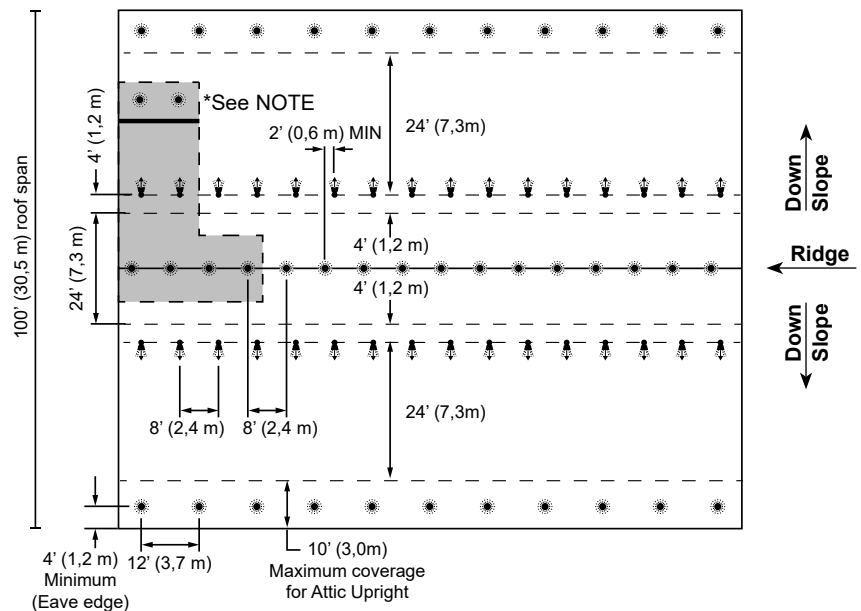

Figure 16B: Dry System Design for 100 ft (30,5 m) Roof Span with Obstruction
2. Figure 16B - Calculate the 6 most demanding sprinklers: